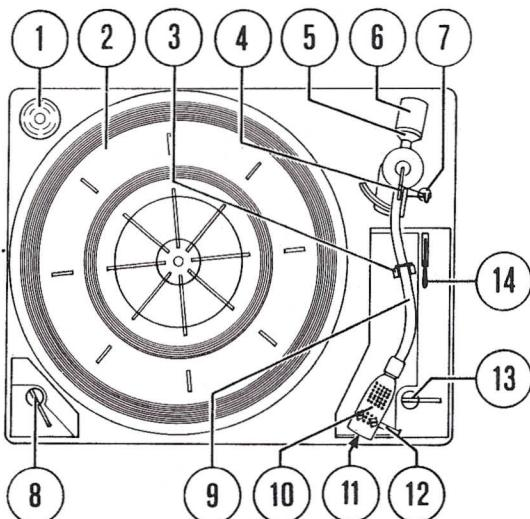

Fig. 1. Betjeningsorganer
1.1 Betjeningsorganer (fig. 1)
1.1 Operating controls (fig. 1)